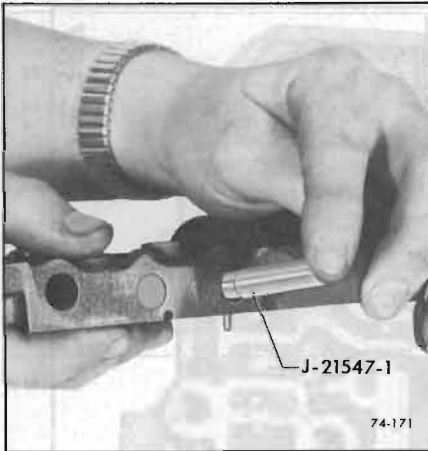

Figure 74-170
1. Remove two (2) bolts attaching detent solenoid. Remove solenoid, solenoid gasket, spring and detent valve.
3. Depress modulator limit spring with Tool J-21547-1 and remove. Retaining pin will fall free. Remove spring and valve. See Figure 74-170.